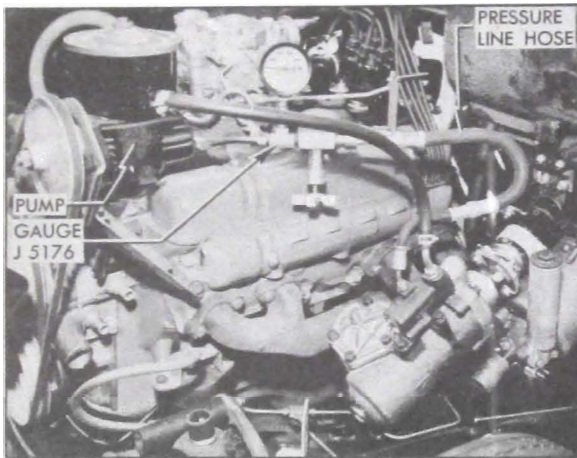

Figure 8-15—Pressure Gauge T-5176 Installed
- (1) Loose pump belt. Adjust to specification.
- (2) Low oil level in reservoir. Fill to proper level. If excessively low, check all lines and joints for evidence of external leakage.
- (3) Steering gear adjustments tight. Adjust to specifications.
- (4) Insufficient oil pressure. If all the above checks do not reveal the cause of hard steering, make the following test of oil pressure:
- a. Disconnect the pressure line at oil pump, attach gauge to pump, connect the hose to end of gauge where the valve is located. See figure 8-15.